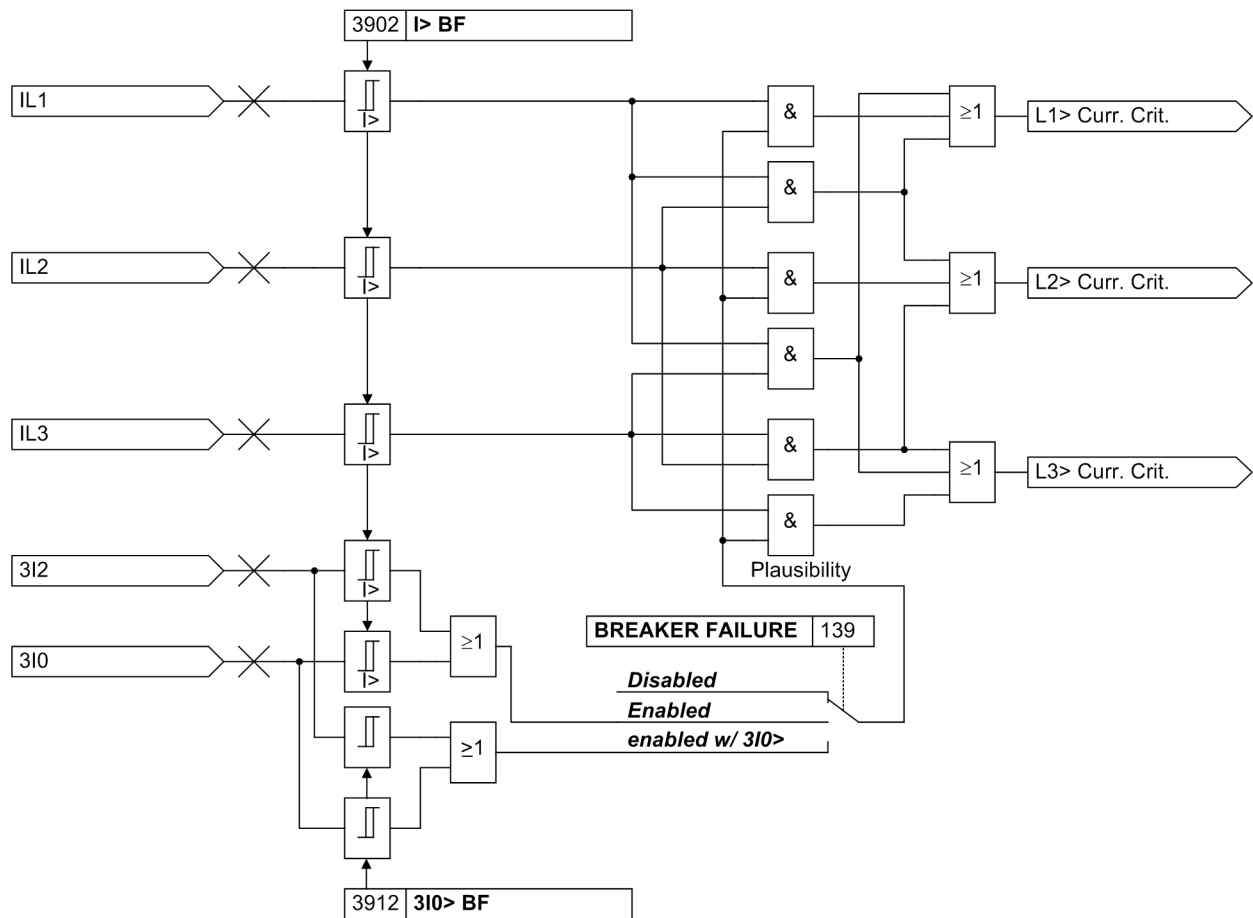
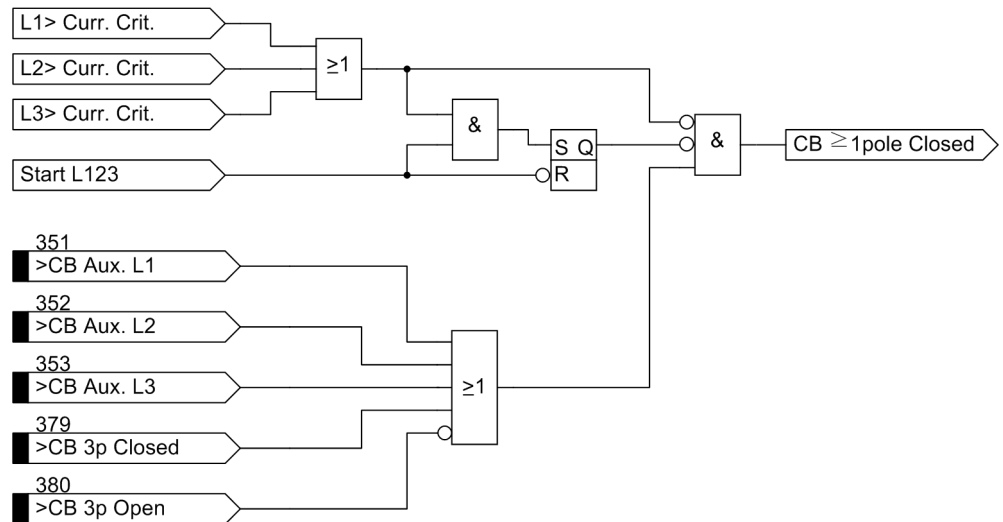
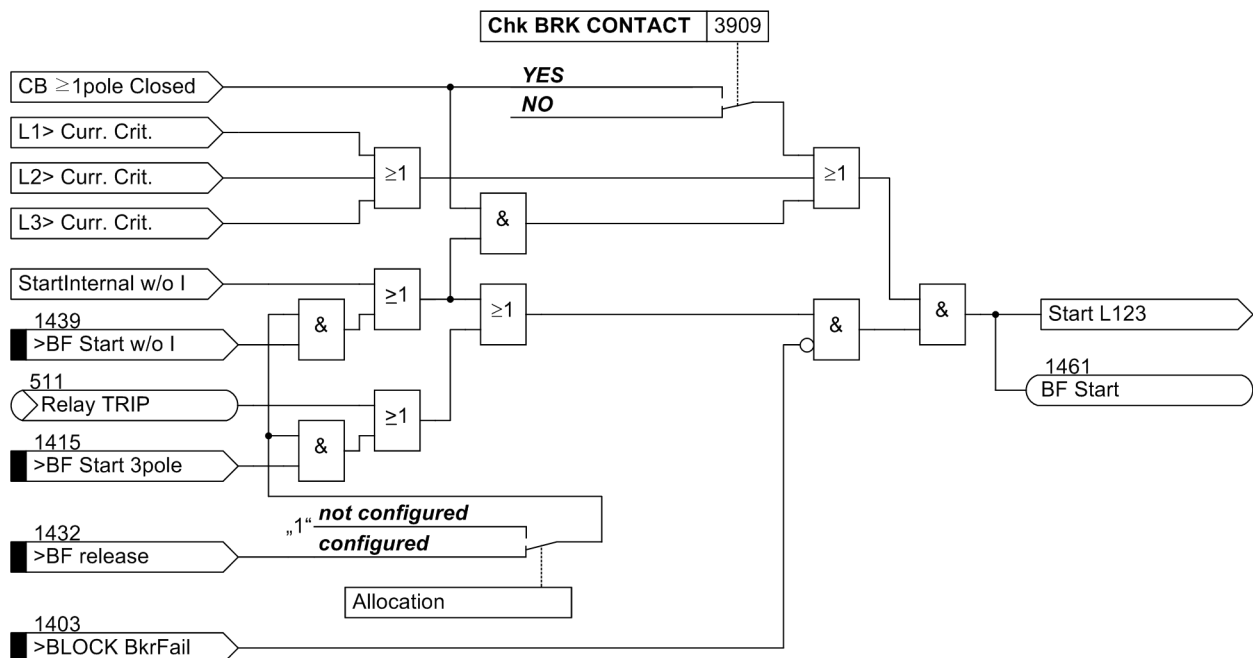
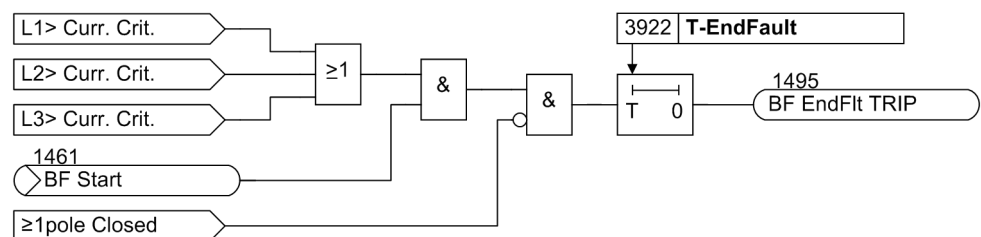

Figure 2-63 Current flow monitoring with plausibility currents $3 \cdot I_0$ and $3 \cdot I_2$
Figure 2-65 Creation of signal "CB \geq any pole closed"
Figure 2-66 Breaker failure protection with common phase initiation
Figure 2-75 Operation scheme of end fault protection
The currents are monitored and compared with the set limit value. Besides the three phase currents, two further current thresholds are provided in order to allow a plausibility check. If configured correspondingly, a separate threshold value can be used for this plausibility check (see Figure 2-63).
It is possible to disable the auxiliary contact criterion. If you set the parameter switch **Chk BRK CONTACT** (Figure 2-66 top) to **NO**, the breaker failure protection can only be started when current flow is detected. The position of the auxiliary contacts is then not evaluated even if the auxiliary contacts are connected to the device.
On the other hand, current flow is not a reliable criterion for proper operation of the circuit breaker for faults which do not cause detectable current flow (e.g. Buchholz protection). Information regarding the position of the circuit breaker auxiliary contacts is required in these cases to check the correct response of the circuit breaker. For this purpose, the binary input „>BF Start w/o I“ No. 1439 is provided (Figure 2-66 left). This input initiates the breaker failure protection even if no current flow is detected.
Figure 2-66 shows the operating principle. When the trip signal appears from any internal or external feeder protection and at least one current flow criterion according to Figure 2-63 is present, the breaker failure protection is initiated and the corresponding delay time(s) is (are) started.
If the current criterion is not fulfilled for any of the phases, the position of the circuit breaker auxiliary contact can be queried as shown in Figure 2-65. If the circuit breaker poles have individual auxiliary contacts, the series connection of the three normally closed (NC) auxiliary contacts is used. After a three-pole trip command the circuit breaker has only operated correctly if current no longer flows over the poles or if all three NC auxiliary contacts are closed.
Figure 2-65 illustrates how the internal signal „CB pole \geq L1 closed“ is created (see Figure 2-66 left) if at least one circuit breaker pole is closed.
The end fault is recognized when the current continues flowing although the circuit breaker auxiliary contacts indicate that the breaker is open. An additional criterion is the presence of any breaker failure protection initiate signal. Figure 2-75 illustrates the functional principle. If the breaker failure protection is initiated and current flow is detected (current criteria „L*> current criterion“ according to Figure 2-63), but no circuit breaker pole is closed (auxiliary contact criterion „any pole closed“), then the timer **T-EndFault** is started. At the end of this time an intertrip signal is transmitted to the opposite end(s) of the protected object.
Additionally, the current criteria (from Figure 2-63) are processed. Pole discrepancy can only be detected when current is not flowing through all three poles, i.e. through only one or two poles. When current is flowing through all three poles, all three poles must be closed even if the breaker auxiliary contacts indicate a different status.